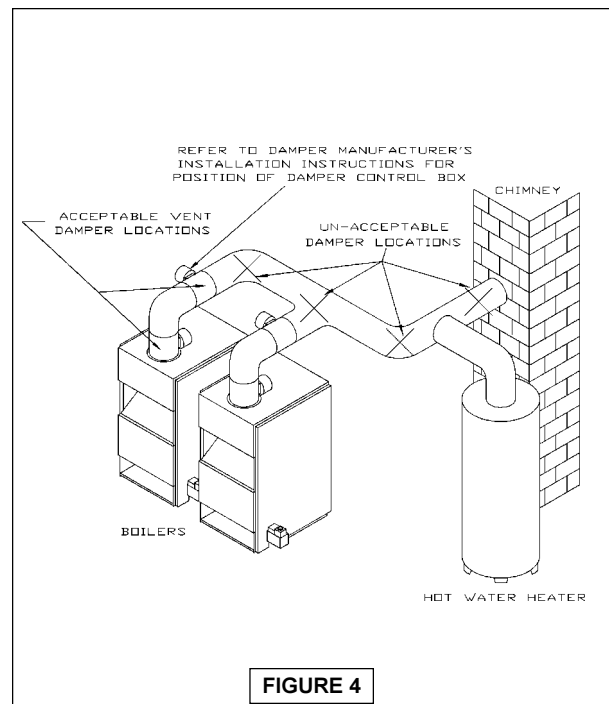

FIGURE 4
1. Ensure that only the boiler is serviced by the Vent Damper. See Figure 4, above.